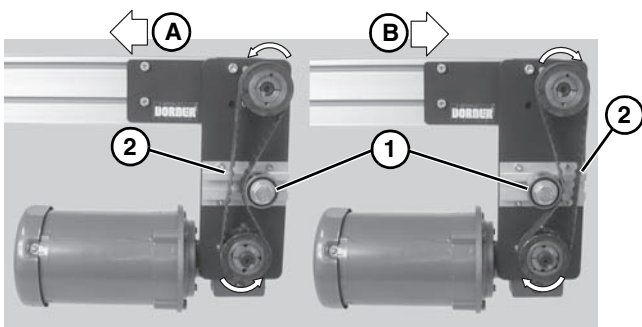

Figure 11
- Depending on conveyor belt travel (direction A or B), locate timing belt tensioner (**Figure 11, item 1**) as shown. Tension timing belt to obtain 1/8" (3 mm) deflection for 6 lb (3 Kg) of force at timing belt midpoint (**Figure 11, item 2**). Tighten tensioner screw to 110 in-lb (12 Nm).
3. Depending on conveyor belt travel (direction A or B), locate timing belt tensioner (**Figure 11, item 1**) as shown. Tension timing belt to obtain 1/8" (3 mm) deflection for 6 lb (3 Kg) of force at timing belt midpoint (**Figure 11, item 2**). Tighten tensioner screw to 110 in-lb (12 Nm).
5. Depending on conveyor belt travel (direction A or B), locate timing belt tensioner (**Figure 11, item 1**) as shown. Tension timing belt to obtain 1/8" (3 mm) deflection for 6 lb (3 Kg) of force at timing belt midpoint (**Figure 11, item 2**). Tighten tensioner screw to 110 in-lb (12 Nm).